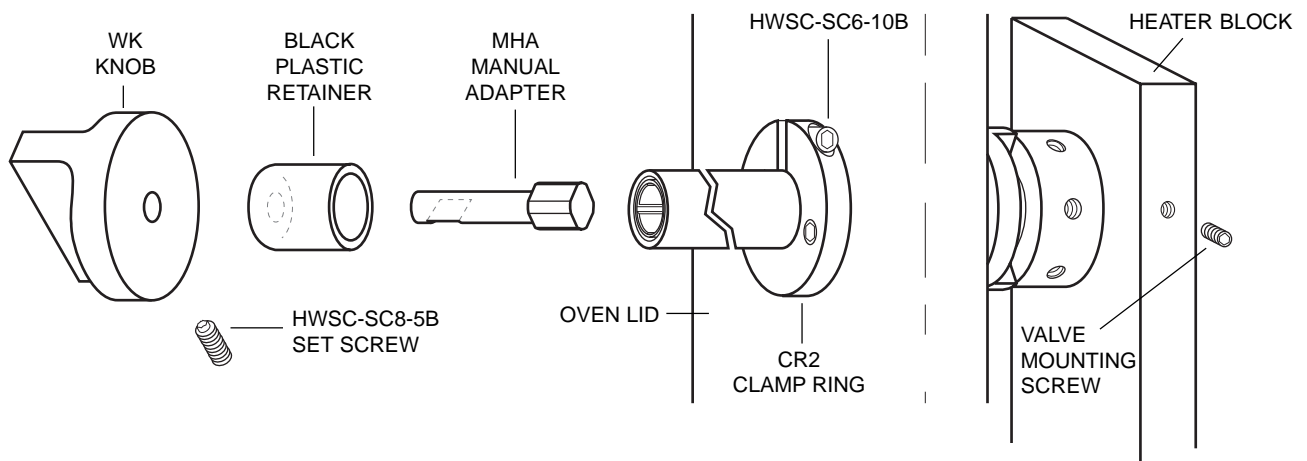

Figure 2: W Type valve with standoff and standard WK knob
1. **For a manual valve**, remove the knob or handle from the standoff assembly. (**Figure 2**)